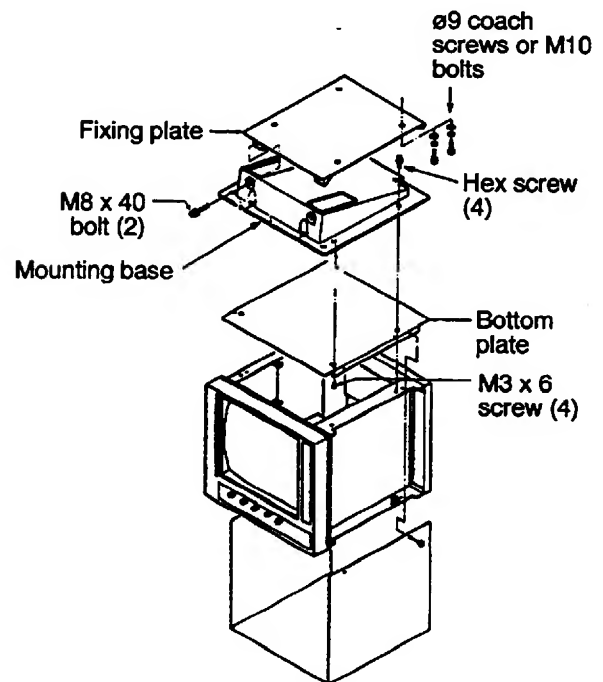

Figure 7 Display unit bulkhead or overhead mounting
- 1) Referring to Figure 7, change the location of the fixing plate, mounting base, bottom plate and cover to mount the unit on the overhead.